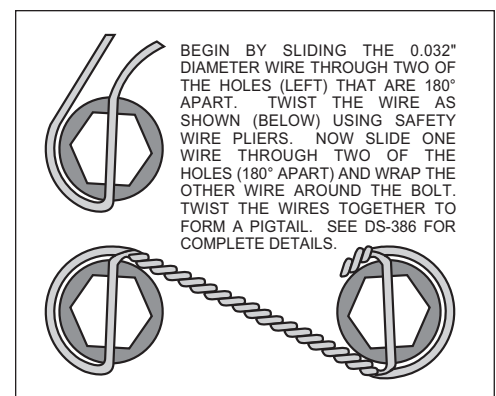

Figure 4. Safety Wire Diagram
- Apply red *Loctite*® 271 to bolt threads (3) before assembly of the caliper mounting bracket (1). Mount bracket (1) to dust face plate of spindle using washers (2) and bolts (3). Torque bolts (3) to 22 ft-lb. **NOTE:** Be sure the heads of the bracket (1) insert nuts are facing outward toward the wheel.
- Install wheel studs (4) into the hub (5). Torque to 77 ft-lb.
- Pack the large inner bearing cone (6) with high temperature disc brake bearing grease (available from your local auto parts store) and install into the backside of the hub (5). Install the grease seal (7) by pressing into the backside of the hub (5).
- Pack the small outer bearing cone (8) with high temperature disc brake bearing grease and install into front of hub (5). Slide the hub with outer bearing cone (8) onto the spindle. Secure using stock washer, adjusting nut and nut locking device. Adjust bearings per Original Equipment Manufacturer (OEM) specifications.
- Install the dust cap (10) onto the hub (5). Friction created by the o-ring (9) on the dust cap (10) keeps it from unscrewing. The O.D. of the existing spindle washer may be larger than the I.D. of the dust cap (10) not allowing it to seat against the hub face. Some grinding on the washer O.D. may be necessary to clear the I.D. of the dust cap (10).
- With the larger I.D. side of the rotor (11) facing away from the hat (12), bolt rotor (11) to hat (12) using washers (13) and bolts (14). Torque bolts (14) to 85 in-lb. Safety wire bolts (14) using standard 0.032 inch diameter stainless steel safety wire as shown in Figure 4. Please refer to Wilwood's data sheet DS-386 (available at [www.wilwood.com/pdf/ds386.pdf](http://www.wilwood.com/pdf/ds386.pdf)) for complete safety wire installation instructions.
**NOTE:** Please reference the caution statement at the beginning of the assembly instructions. With the bleed screws pointing up, mount the caliper (16) onto the caliper bracket (1) with the flat washers (17), lock washers (18), bolts (19) and caliper spacer (15) positioned between caliper and bracket. Finger tighten. View the rotor (11) through the top opening of the caliper (16). The rotor (11) should be aligned in the center of the caliper (16). If not, adjust the caliper (16) by using 0.032 inch thick shims (20) placed between the caliper spacer (15) and the caliper (16). Finger tighten and recheck alignment. Apply red *Loctite*® 271 to bolt threads (19) and torque to 47 ft-lb. Safety wire caliper bolts (19).
- Remove the bridge bolt from the caliper (16) and install the disc brake pads (21). Reinstall the caliper bridge bolt.